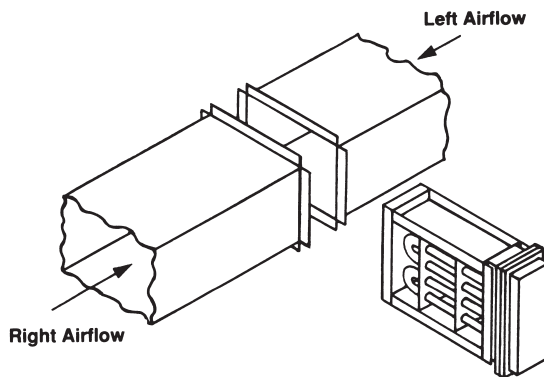

Figure 87. Standard Flanged Heater Installation
1. Construction Type – Standard flanged or optional slip-in. See Figures 87 and 88.